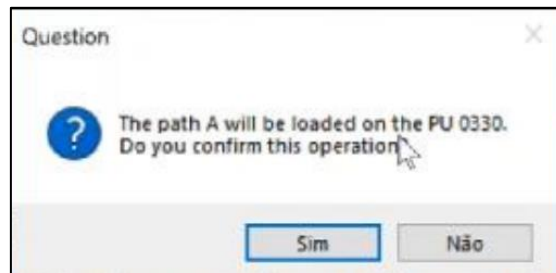

Fig. 328 - Confirmation message to exportation
5. After that, clicks on RFID () button and it will pop up a window asking if he wants to load the path to the PU (Fig. 328);